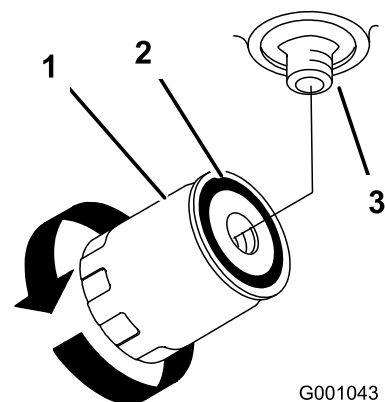

Figure 67
4. Apply a thin coat hydro fluid to the rubber gasket on the replacement filter (Figure 67).
6. Fill the hydraulic tank with hydraulic fluid until the fluid overflows the filter and then turn the oil filter clockwise until the rubber gasket contacts the filter adapter, then tighten the filter an additional 1/2 turn (Figure 67).